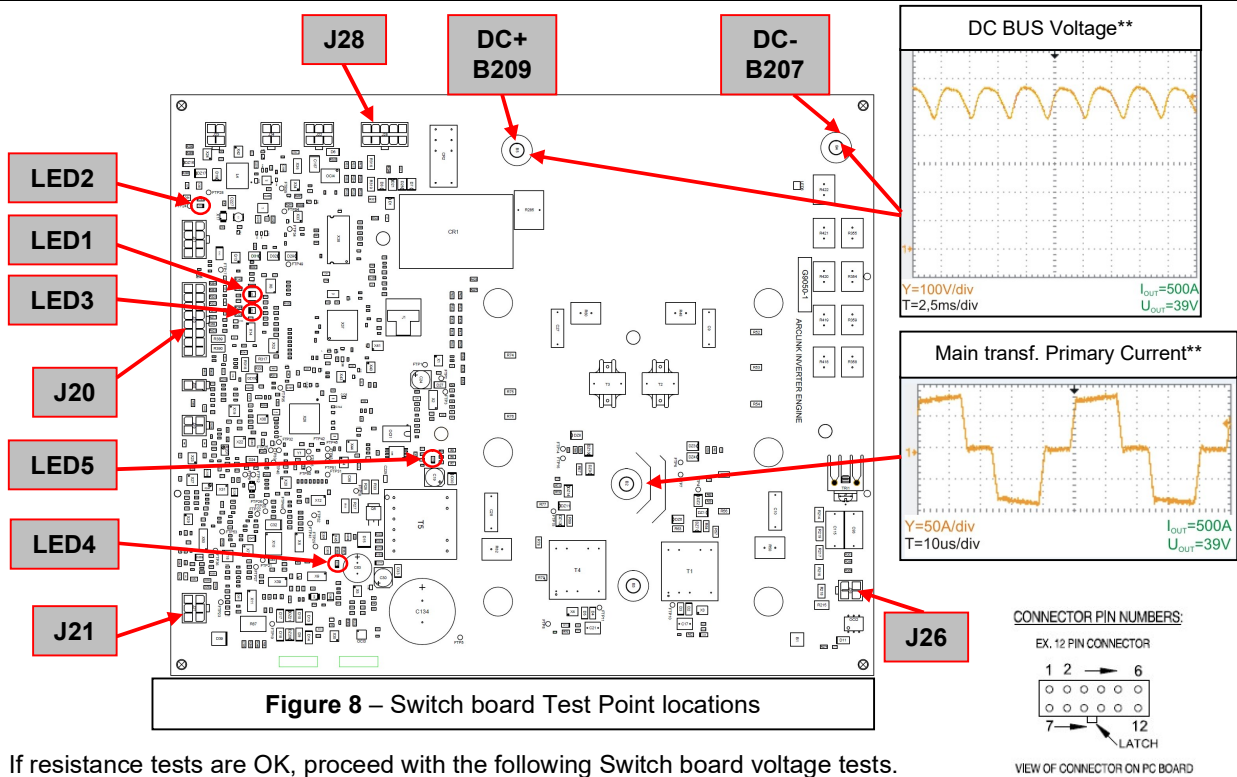

Figure 8 – Switch board Test Point locations
13. Using the multimeter perform the tests detailed in **Test Table 10**. See **Figure 8** for Test Point locations